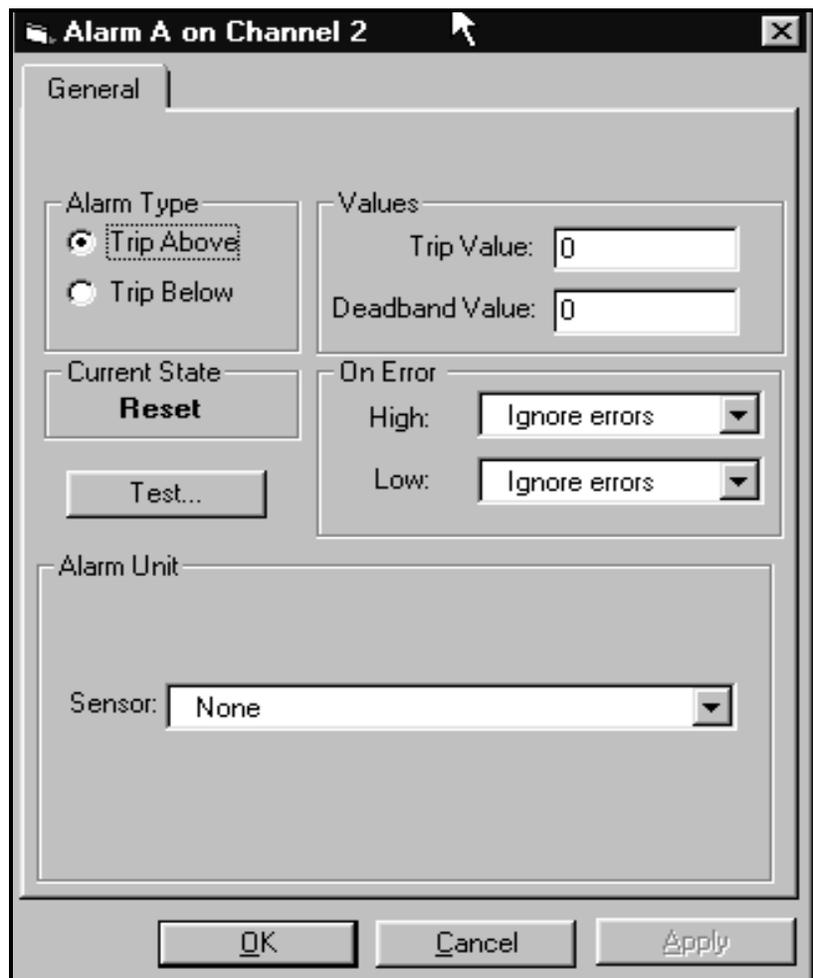

Figure 4-4: Alarm Programming Window
2. From the channel menu, click on the “*Alarms*” option, and then on “*Alarm A*” or “*Alarm B.*” The Alarm window appears, as shown in Figure 4-4 below.